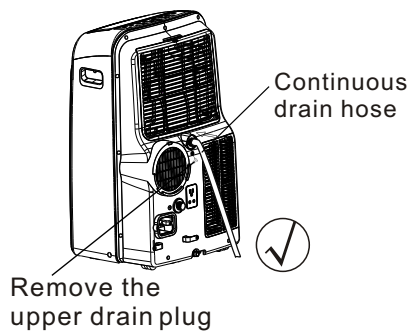

Fig.20a
- During dehumidifying modes, remove the upper drain plug from the back of the unit, install the drain connector(5/8" universal female mender) with 3/4" hose(locally purchased). For the models without drain connector, just attach the drain hose to the hole. Place the open end of the hose directly over the drain area in your basement floor. Please refer to Fig.20a.
NOTE: Make sure the hose is secure so there are no leaks. Direct the hose toward the drain, making sure that there are no kinks that will stop the water flowing. Place the end of the hose into the drain and make sure the end of the hose is down to let the water flow smoothly. (See Fig.20a,20b,21a). Do never let it up. (See Fig.21b).